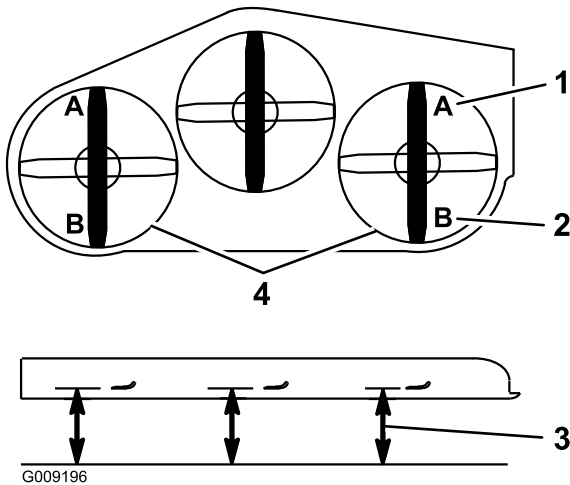

Figure 89
9. On both sides of the deck, measure from the level surface to the front tip of the blade (Position A). The measurement should read 3 inches (7.6 mm) (Figure 89).
- On both sides of the deck, measure from the level surface to the back tip of the blade (Position B). The measurement should read 3 1/4 inches (8.3 cm) (Figure 89).